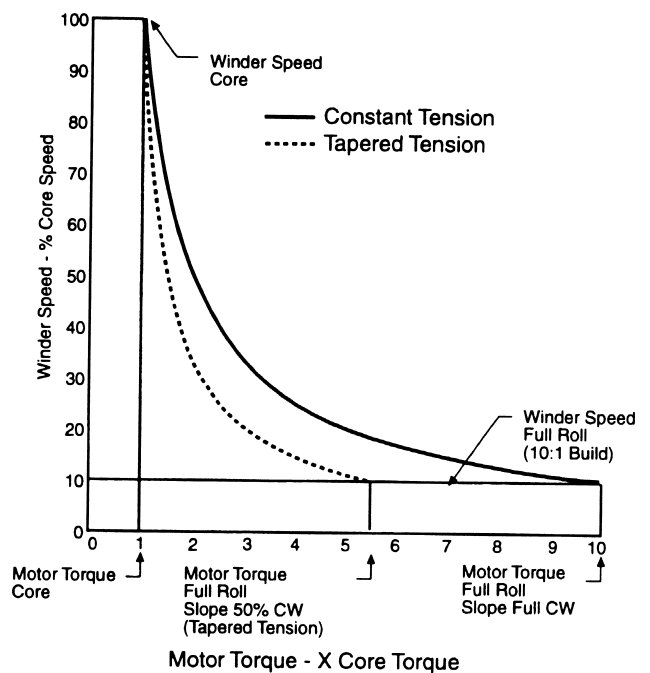

Figure. 6-5
5. Slope function produces non-linear winder speed/motor torque curve required for constant tension (see Fig. 6.5).